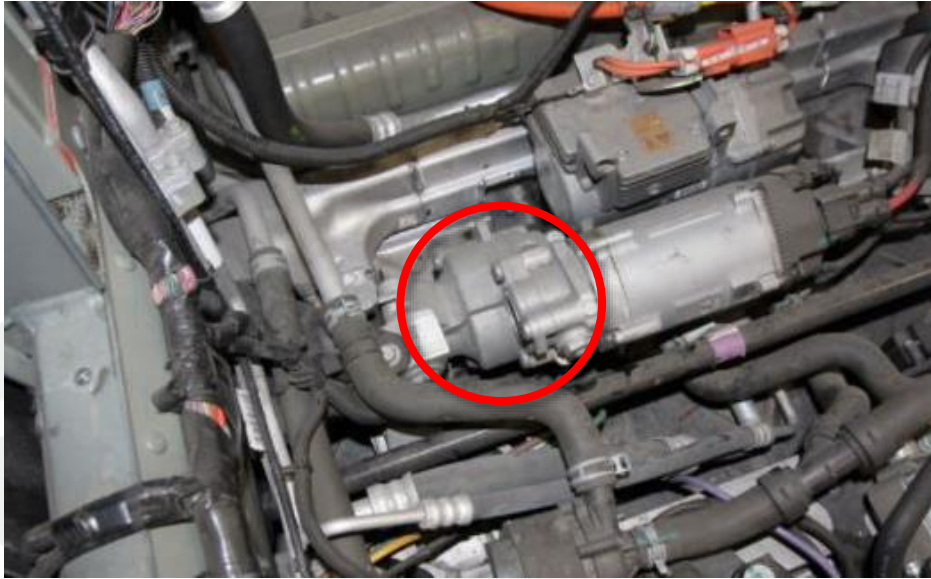

Figure 10
21. Clean the area around the remaining steering rack housing bolts with a shop towel, and then clean debris away with compressed air (Figure 10).
22. Inspect the remaining steering rack housing bolts from above the vehicle (Figure 10).